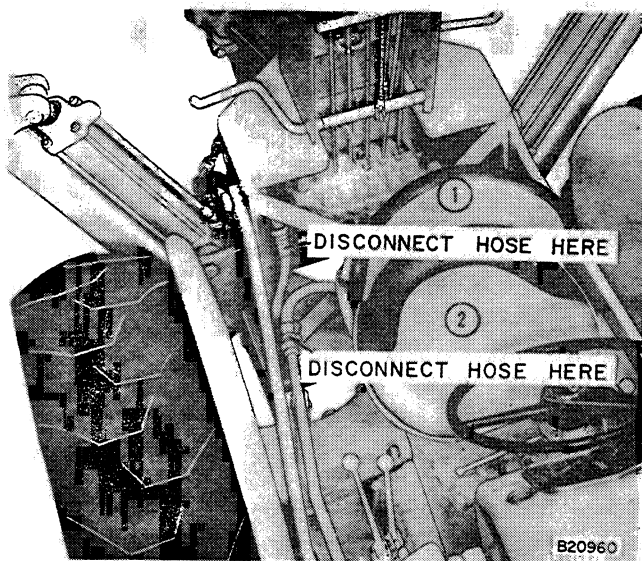
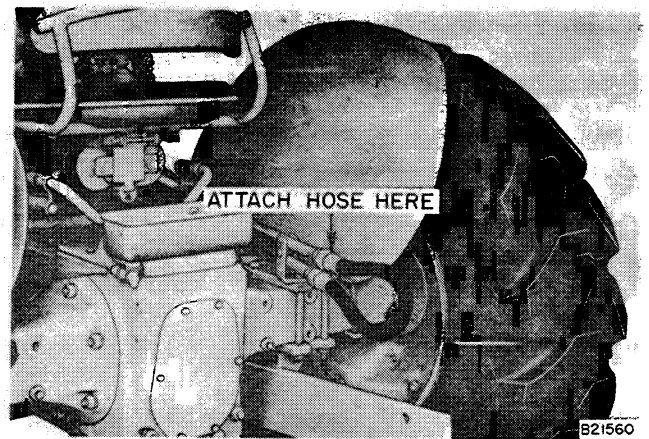

Figure 28 - Hose Connections
Figure 30 - Hose Connections at Tractor
5. REFERRING TO FIGURE 28: Disconnect hose at valve and return hose at tube. Connect pressure hose to return tube to complete the circuit, see Figure 30.
3. Connect hose on Tractor to right hand side of valve and hose on valve to return line, see Figure 28.